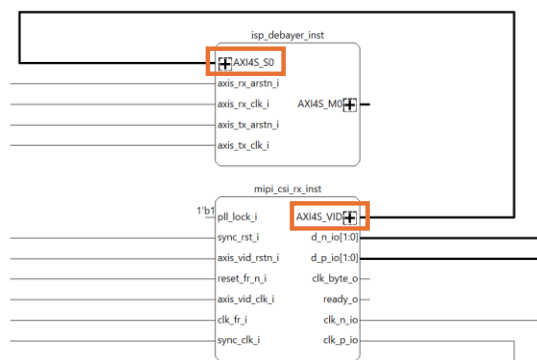

Figure 7.9. Lattice Propel Builder Connection Update for UVSI
5. The unified video streaming data width is updated, resulting in the existing UVSI connections to be disconnected. Reconnect `isp_debayer_inst` AXI4S_S0 to `mipi_csi_rx_inst` AXI4S_VID as shown in Figure 7.9.